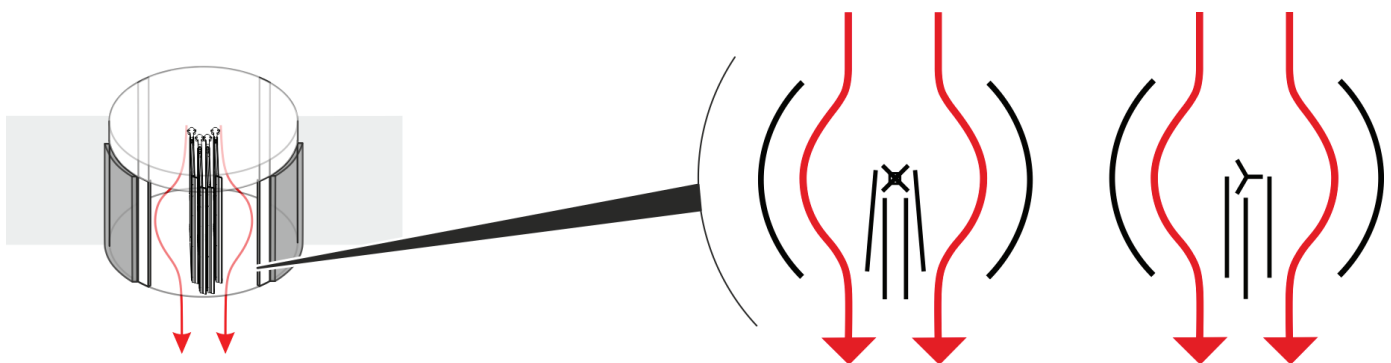

Fig. 16 Emergency exit position (4 and 3 wings)
8. Orient the folded door wings (Fig. 16) at the exit, as shown in Fig. 16.
» The revolving door can be used as an emergency exit (Fig. 16).